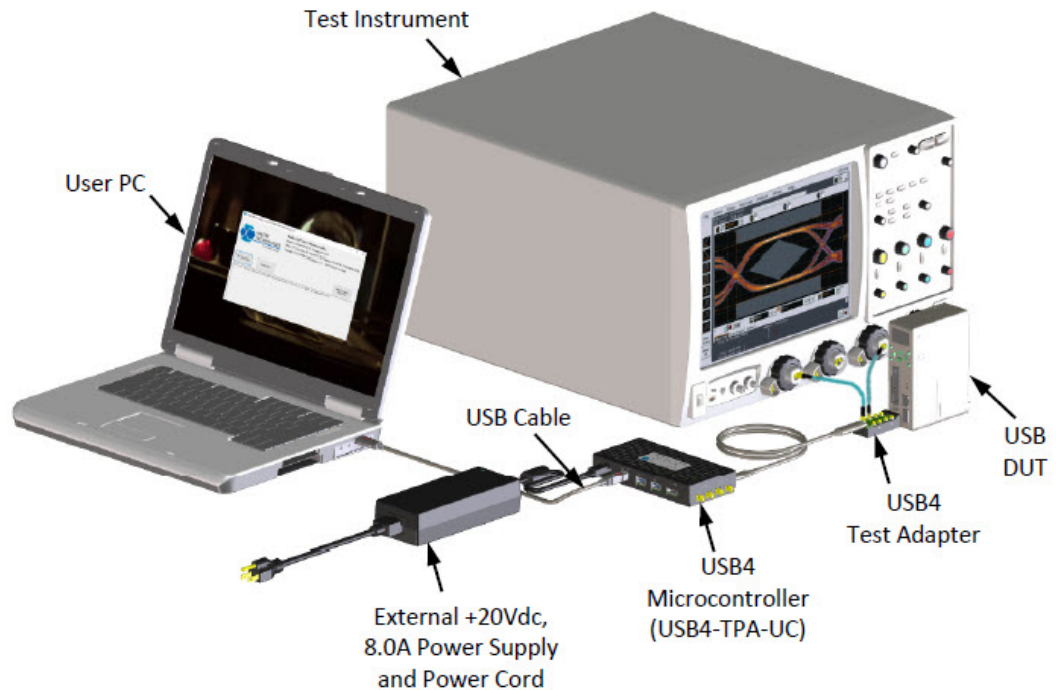

Figure 41 Transmitter TP2/TP3 Test Setup
- 1 For the physical connection between the DUT & the Oscilloscope, see Figure 41 and for configuring the USB4 Test Application, see "Setting up the USB4 Test Application" on page 48.
- 1 Connect the DUT to the Oscilloscope as shown in the Figure 41.